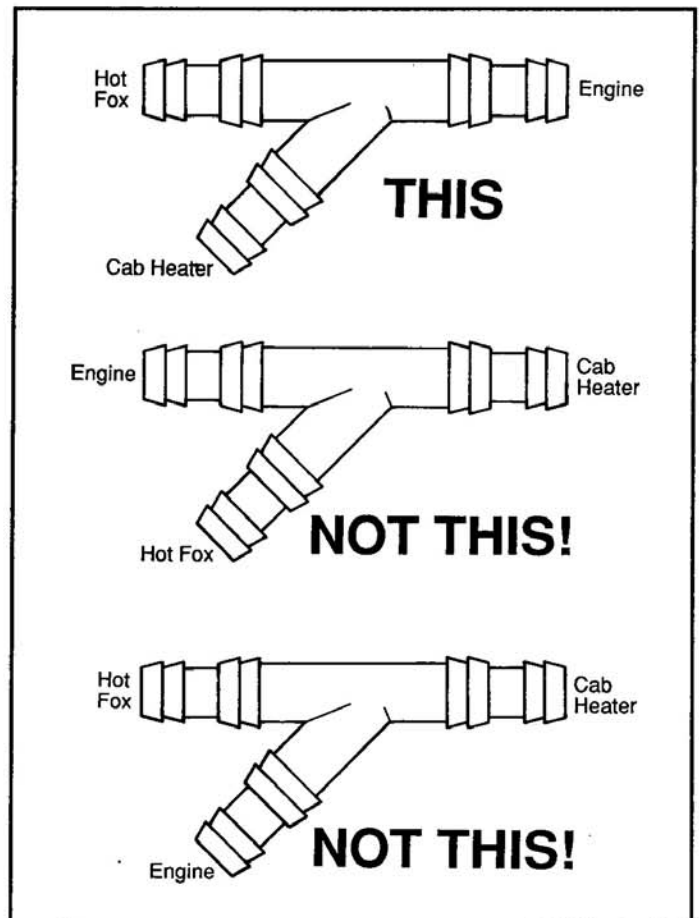

Fig. 15
**CAUTION:** For most efficient Warmer operation, provide a separate cooling loop. Avoid using "T"s or "Y"s in the coolant supply and return lines (thereby paralleling with another accessory). However, if all engine access ports are being used for other accessories, you may have to consider a "T" or "Y" as an option. Any "T" used must be at least 1/2 NPT or larger, and should be installed at the engine port – not in the coolant line itself. Any "Y"s should be inserted into existing hoses as shown in Fig. 15 – so that they provide the least restriction of coolant flow to the "Hot Fox". Note also that plumbing a fuel warmer in series with a cab heater may drastically reduce the amount of heat transferred to the fuel.